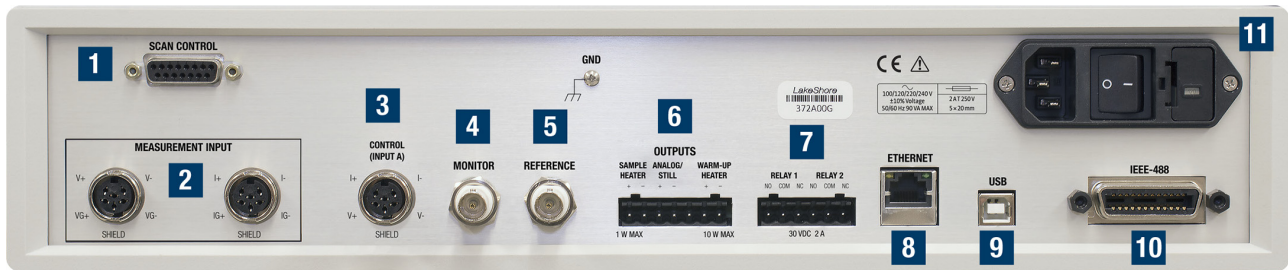

FIGURE 3-1 Model 372 rear panel
This section provides a description of the Model 372 rear panel connections. The rear panel consists of the measurement input connectors (#2 in FIGURE 3-1), scanner control connector (1), control input connector (3), diagnostic monitor output connector (4), reference output connector (5), sample heater, warm-up heater and analog output terminal block connector (6), relays 1 and 2 terminal block connector (7), RJ-45 Ethernet interface (8), USB type-B port (9), IEEE-488 interface (10), and the line input assembly (11). Refer to section 8.10 for rear panel connector pin-out details.